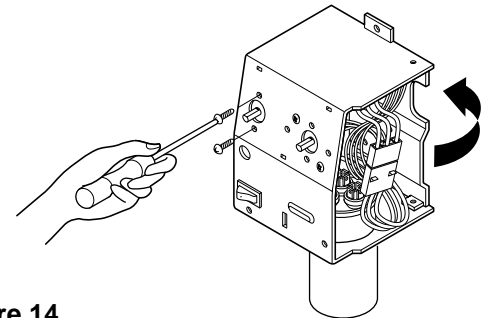

Figure 14
5. Remove the thermostat. (See Fig. 14)